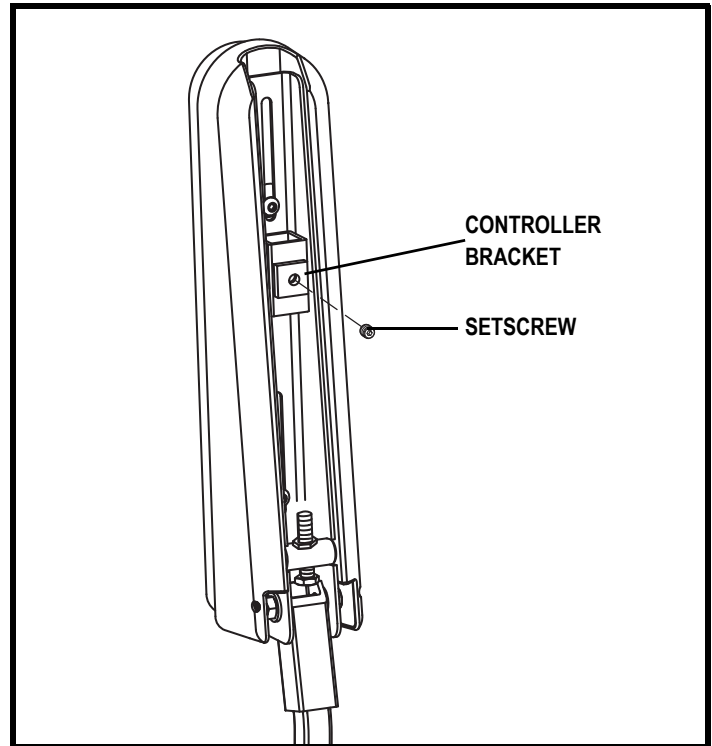

Figure 17. Underside of Armrest
1. Loosen the two setscrews located on the armrest receiver. See figure 17.
2. Loosen the setscrew on the controller bracket. See figure 17.
4. Flip up the armrest and loosen the setscrew. See figure 17.